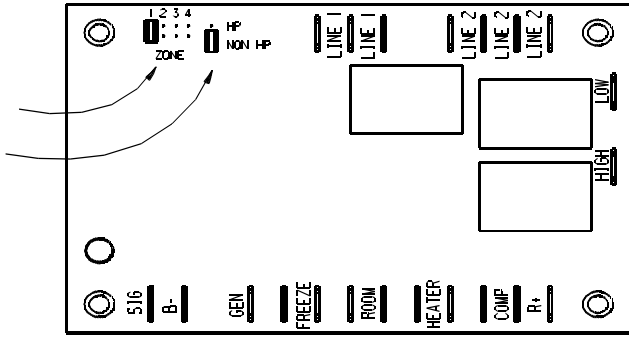

FIGURE 7
2. Position ceiling plenum into the ceiling opening. For proper orientation of the ceiling plenum, reference Figure 7.
2. Set the "zone" jumper to the proper zone position for the particular position the air conditioner or heat pump will be in the coach (Refer to Figure 7 - Zone 1 is shown). Zones should be numbered from the front to the back of the coach with Zone 1 in front.
3. Set the "HP"/"NON HP" jumper to "HP" if the unit is a heat pump or to "NON HP" if the unit is not a heat pump (Refer to Figure 7 - Non HP is shown).